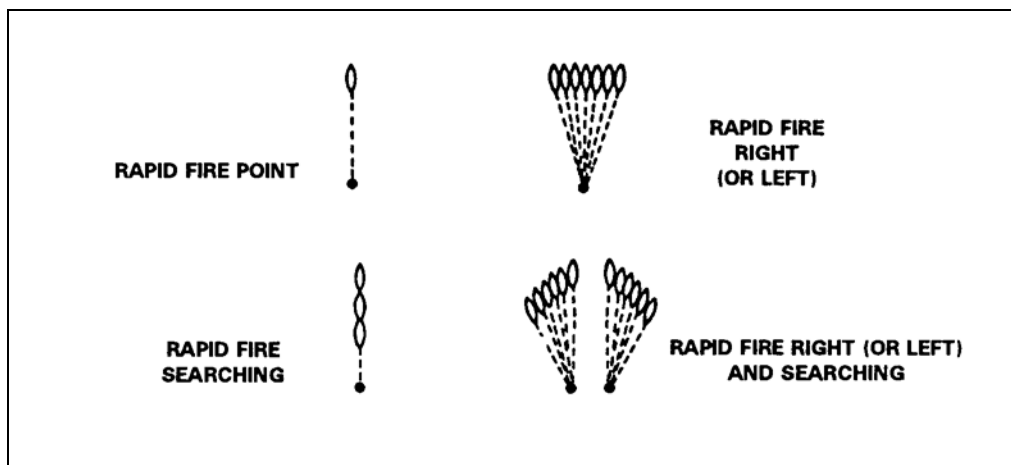

Figure 6-3. Classes of fire with respect to the weapon.
c. **With Respect to the Weapon.** This also includes four ways to distribute fire (Figure 6-3, page 6-4):
- (1) **Rapid Fire Point.** Distribute fire against a target with one aim point.
- (2) **Rapid Fire Right or Left.** Distribute fire right to left or left to right without changing range. Use this against frontal or flanking targets.
- (3) **Rapid Fire Searching.** Distribute fire against a deep target changing elevation but not direction. Use this fire against enfilade targets.
- (4) **Rapid Fire Right or Left and Searching.** Distribute fire against a target with depth and width changing elevation and direction. Use this fire against an oblique target.